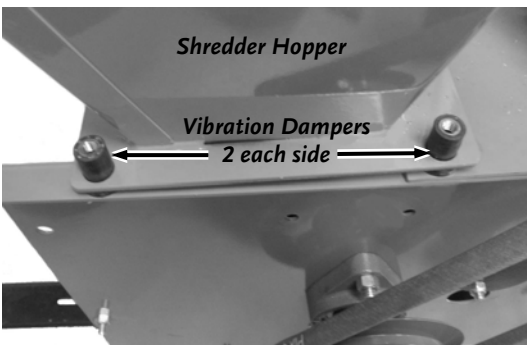

Figure 28
3. Using two 1/2" Wrenches, remove the Shredder Hopper (**Figure 28**) by removing the four Bolts (hold the Nuts on top while backing out the Bolts) from the Vibration Dampers. Note that the Rear Bolts are 1-1/2" and the Front Bolts are 1-1/4" long. Lift the Hopper off with the Vibration Dampers in place (**Figure 28**).